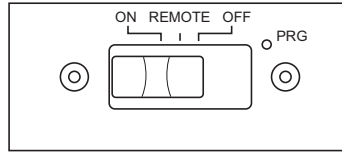

Figure 25 - Remote Selector Switch in ON Position
- Wait one minute and switch selector switch to the ON position to light burners (see Figure 25). When using in the ON position (without remote) burners will light on high. There is no adjustment to the flames without using remote.